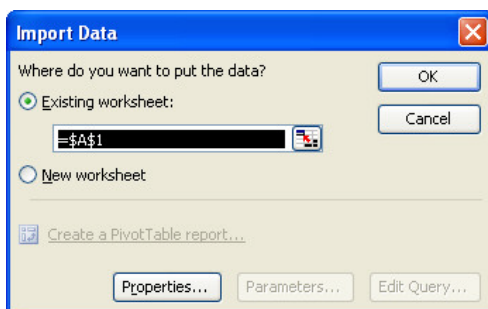

Figure 4-39 Import the Data into the Worksheet
- The final step asks where to save the file. Because a worksheet has already been opened in step 2, just click OK (Figure 4-39).